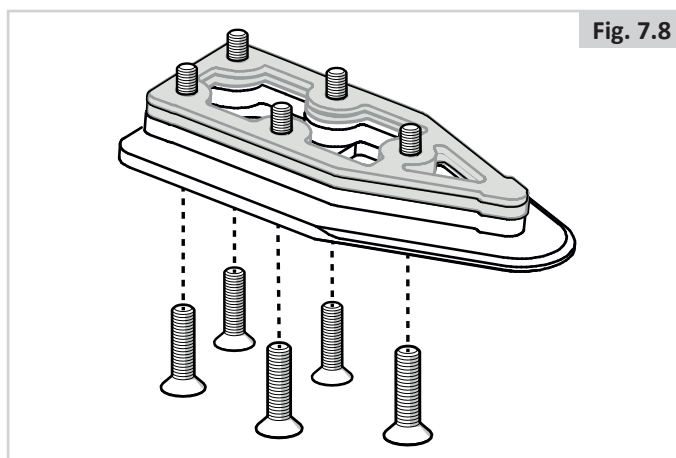

Fig. 7.8
3. Put the five screws through the lock plate, the mandatory 8 mm spacer and the selected optional spacers (gray in picture) (Fig. 7.8).